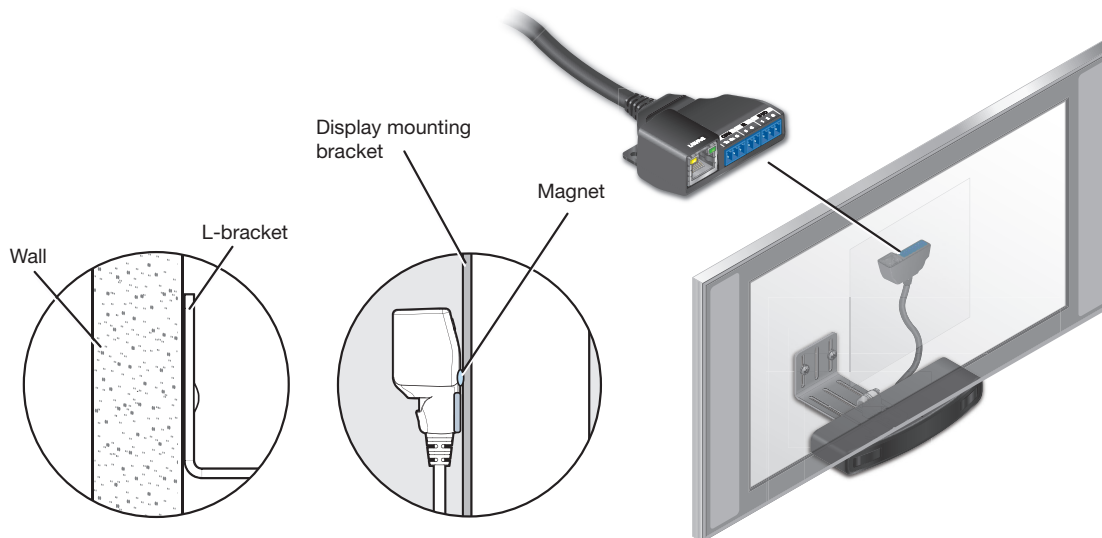

Figure 10. Mounting the WC Pro 150 OCS
- Attach the hub to a nearby metal surface via the molded-in magnets on the bottom (shown in figure 10).